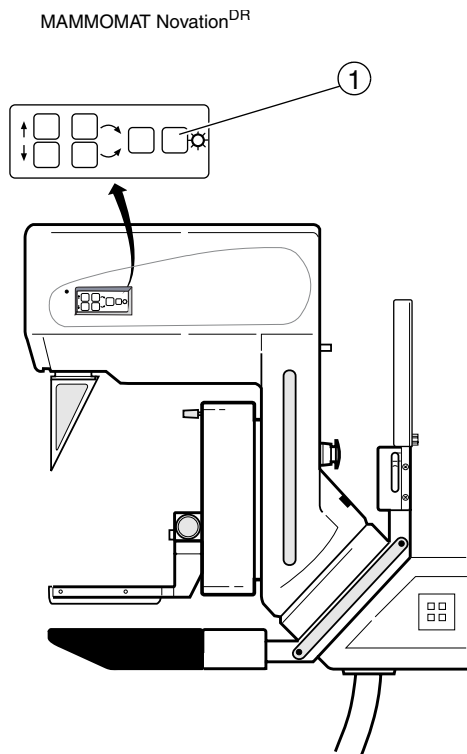
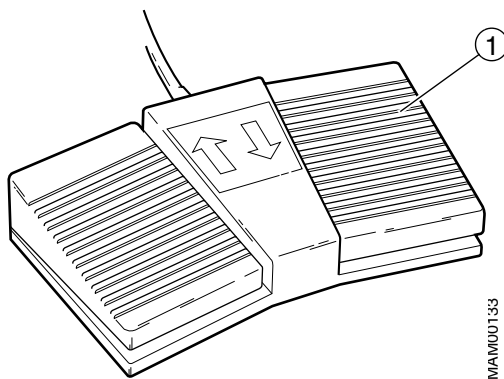

Fig. 1 Field light switch
Fig. 2 Foot switch
1. Switch on the field light by pressing the switch (1/Fig. 1) or by pressing the compression foot switch (1/Fig. 2).
5. Check the function of the foot switch for motorized compression/decompression (1 and 2/Fig. 2).